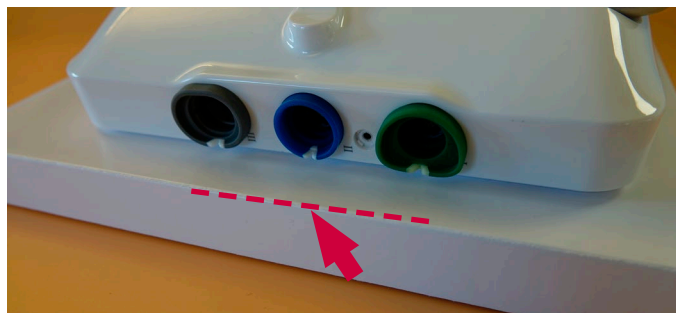

Figure 30 Place the back casing, starting from the side with the colour rings
c) Place the back casing on the displaying unit, starting with the side where the colour rings are placed (Figure 30)